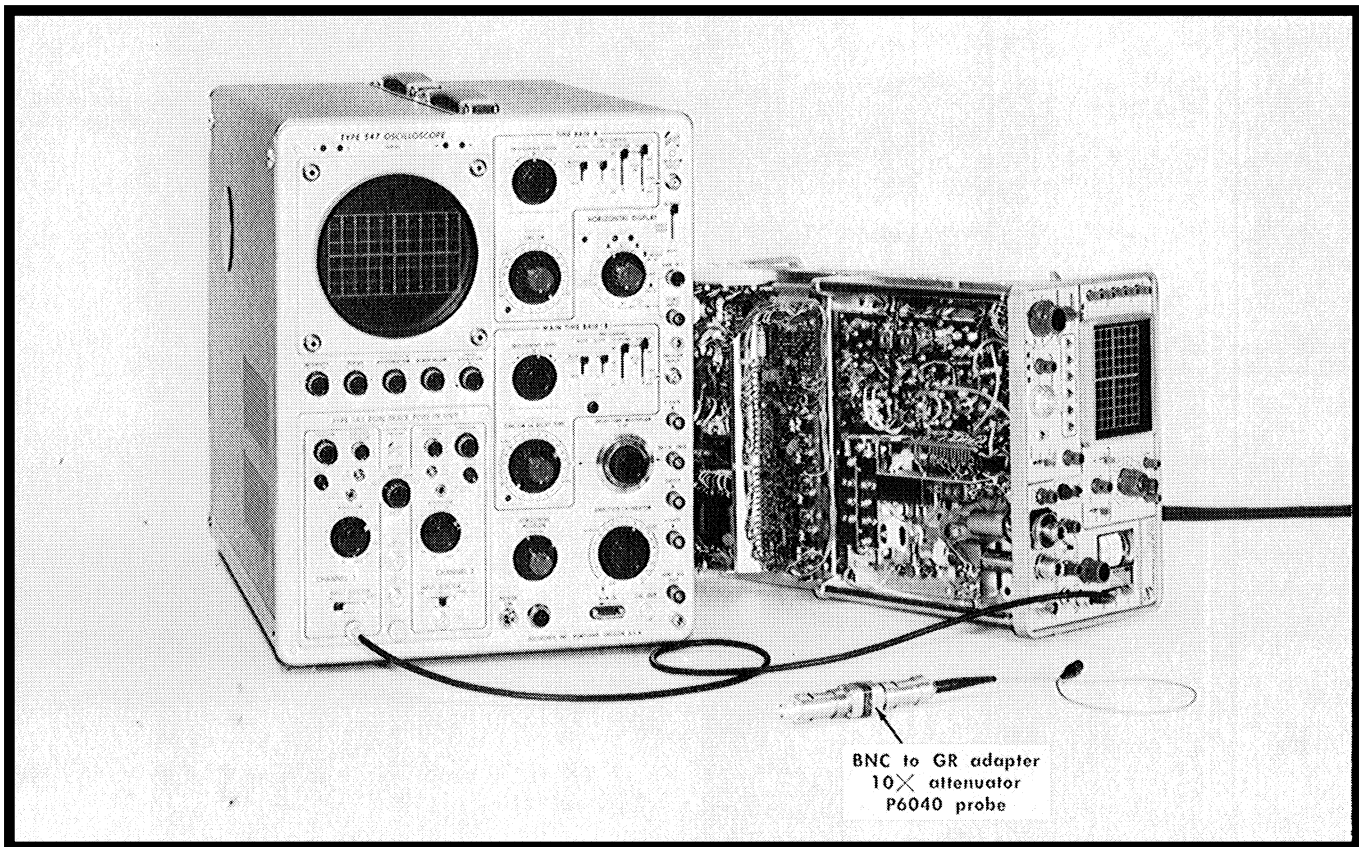

Fig. 6-32. Test equipment setup to check or adjust the phase lock circuit.
26. Adjust Avalanche Voltage ①
- a. Equipment setup is given in Fig. 6-32.
- b. Apply the output from the 1 MHz MARKERS OUT signal through a 10× attenuator to J120 on the honeycomb assembly as follows: Connect a GR to Sealectro adapter (such as a P6040 probe cable), a GR to BNC adapter and a 20 dB attenuator, (see Fig. 6-32) between the 1 MHz MARKERS OUT connector and J120. Disconnect the Sealectro connector from J120.